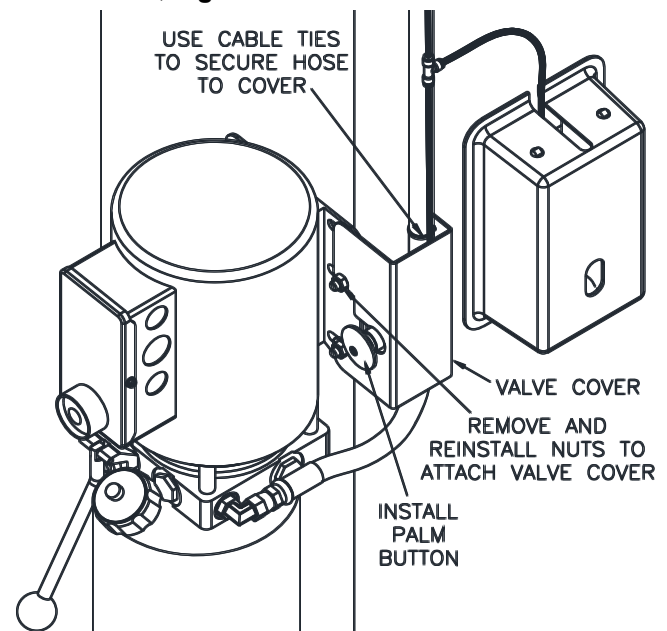

Fig. 18 – Cable Assembly
- 56) Remove the two nuts securing the right side of the power unit, install the valve cover with these nuts, and secure the hose to the cover with black wire ties, **Fig. 18**.